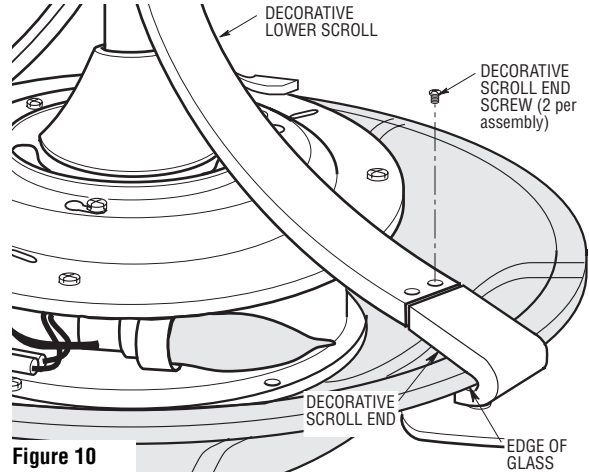

Figure 10
- 22. Assemble the scroll end and lower scroll using the two screws (supplied). Assemble the remaining two legs and ends as described (Figure 10).